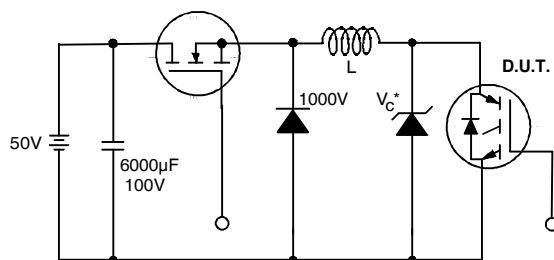

Figure 19. Clamped Inductive Load Test Circuit
- ② $V_{CC}=80\%(V_{CES})$, $V_{GE}=20V$, $L=10\mu H$, $R_G=23\Omega$ (figure 19).
- ③ Pulse width $\leq 80\mu s$; duty factor $\leq 0.1\%$.
- ④ Pulse width $5.0\mu s$, single shot.
- ⑤ Uses IRG4BC30KD data and test conditions.